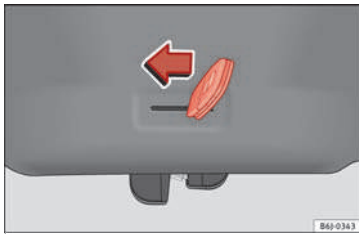

Fig. 6 Unlocking the rear lid manually.
- Insert the key blade into the groove and unlock the locking system, turning the key from right to left, as shown by the arrow » **Fig. 6**.